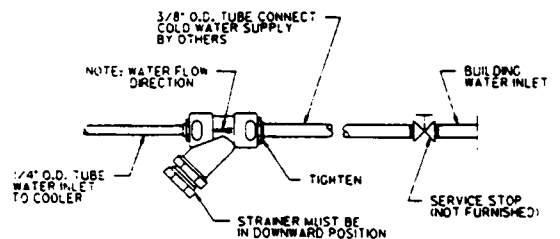
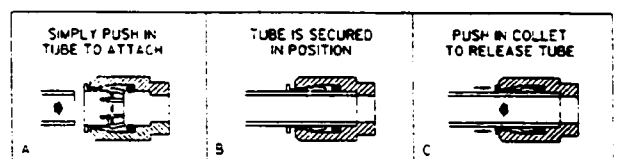

FIG. 1
FIG. 2
3. Connect cooler to building supply line with a shut-off valve and install a 3/8" water line between the valve and the cooler. Remove any burrs from outside of water line. Loosen nut on inlet side of the "Y"strainer (see Fig.1) and insert water line to a positive stop - approx. 3/4". (see Fig.2) Finger tighten nut to lock tubing in place. (see Fig.1)
Actuation of Quick Connect Water Fittings: Cooler is provided with lead-free connectors which utilize an o-ring water seal. To remove tubing from the fitting, relieve water pressure, push in on the gray collar while pulling on the tubing.(see Fig.2) To insert tubing, push tube straight into fitting until it reaches a positive stop, approximately 3/4".